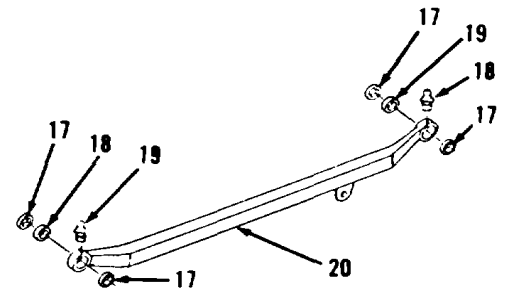
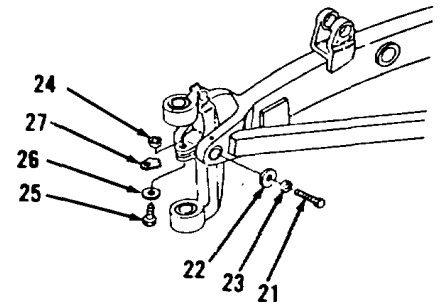

Figure 5-99.
Figure 5-100.
11. Remove items 17 thru 20 as an assembly from arms (32 and 44).
13. Using suitable puller, remove four seals (17) and two bearings (18, Figure 5-99).
14. Remove two fittings (19) from bar (20).
15. Remove two bolts (21) and washers (22 and 23, Figure 5-100) from right, front of vehicle.
16. Remove nut (24), bolt (25), washer (26) and lock (27).